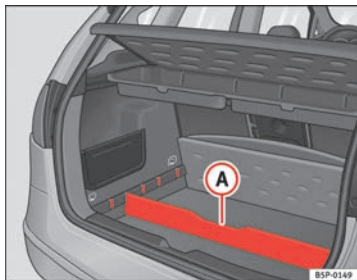

Fig. 107 Luggage compartment divider
- Fit the separator (A) ⇒ fig. 107, into the side grooves depending on the size of the objects to be transported. The on-board tool kit and the spare wheel are located underneath the luggage compartment.